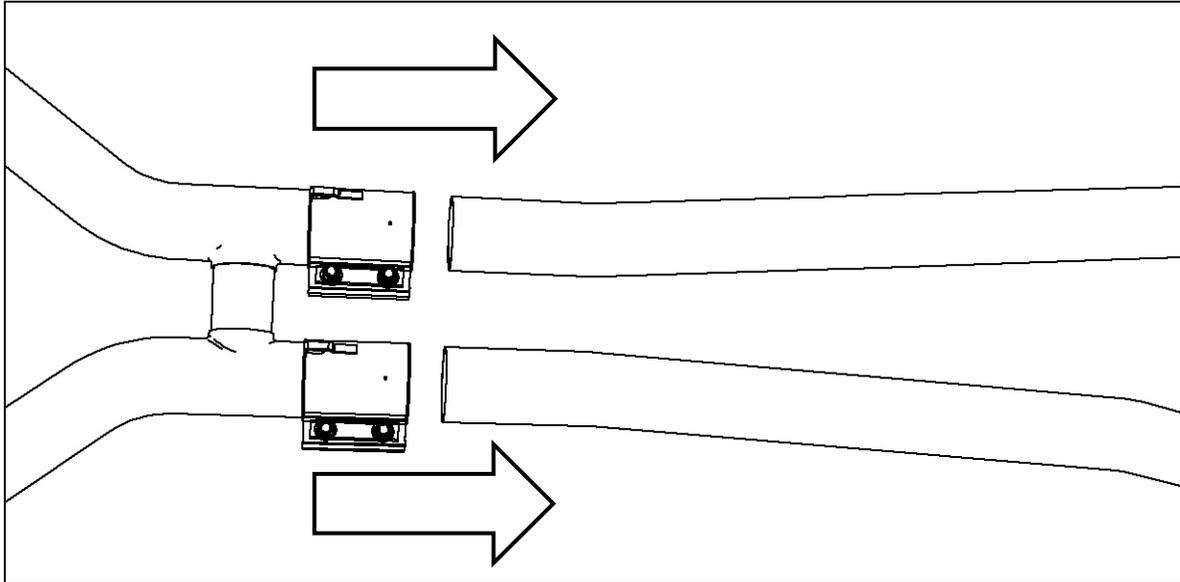

Figure 3
- Slide each midpipe out of the double-sided clamps. Refer to Figure 3.